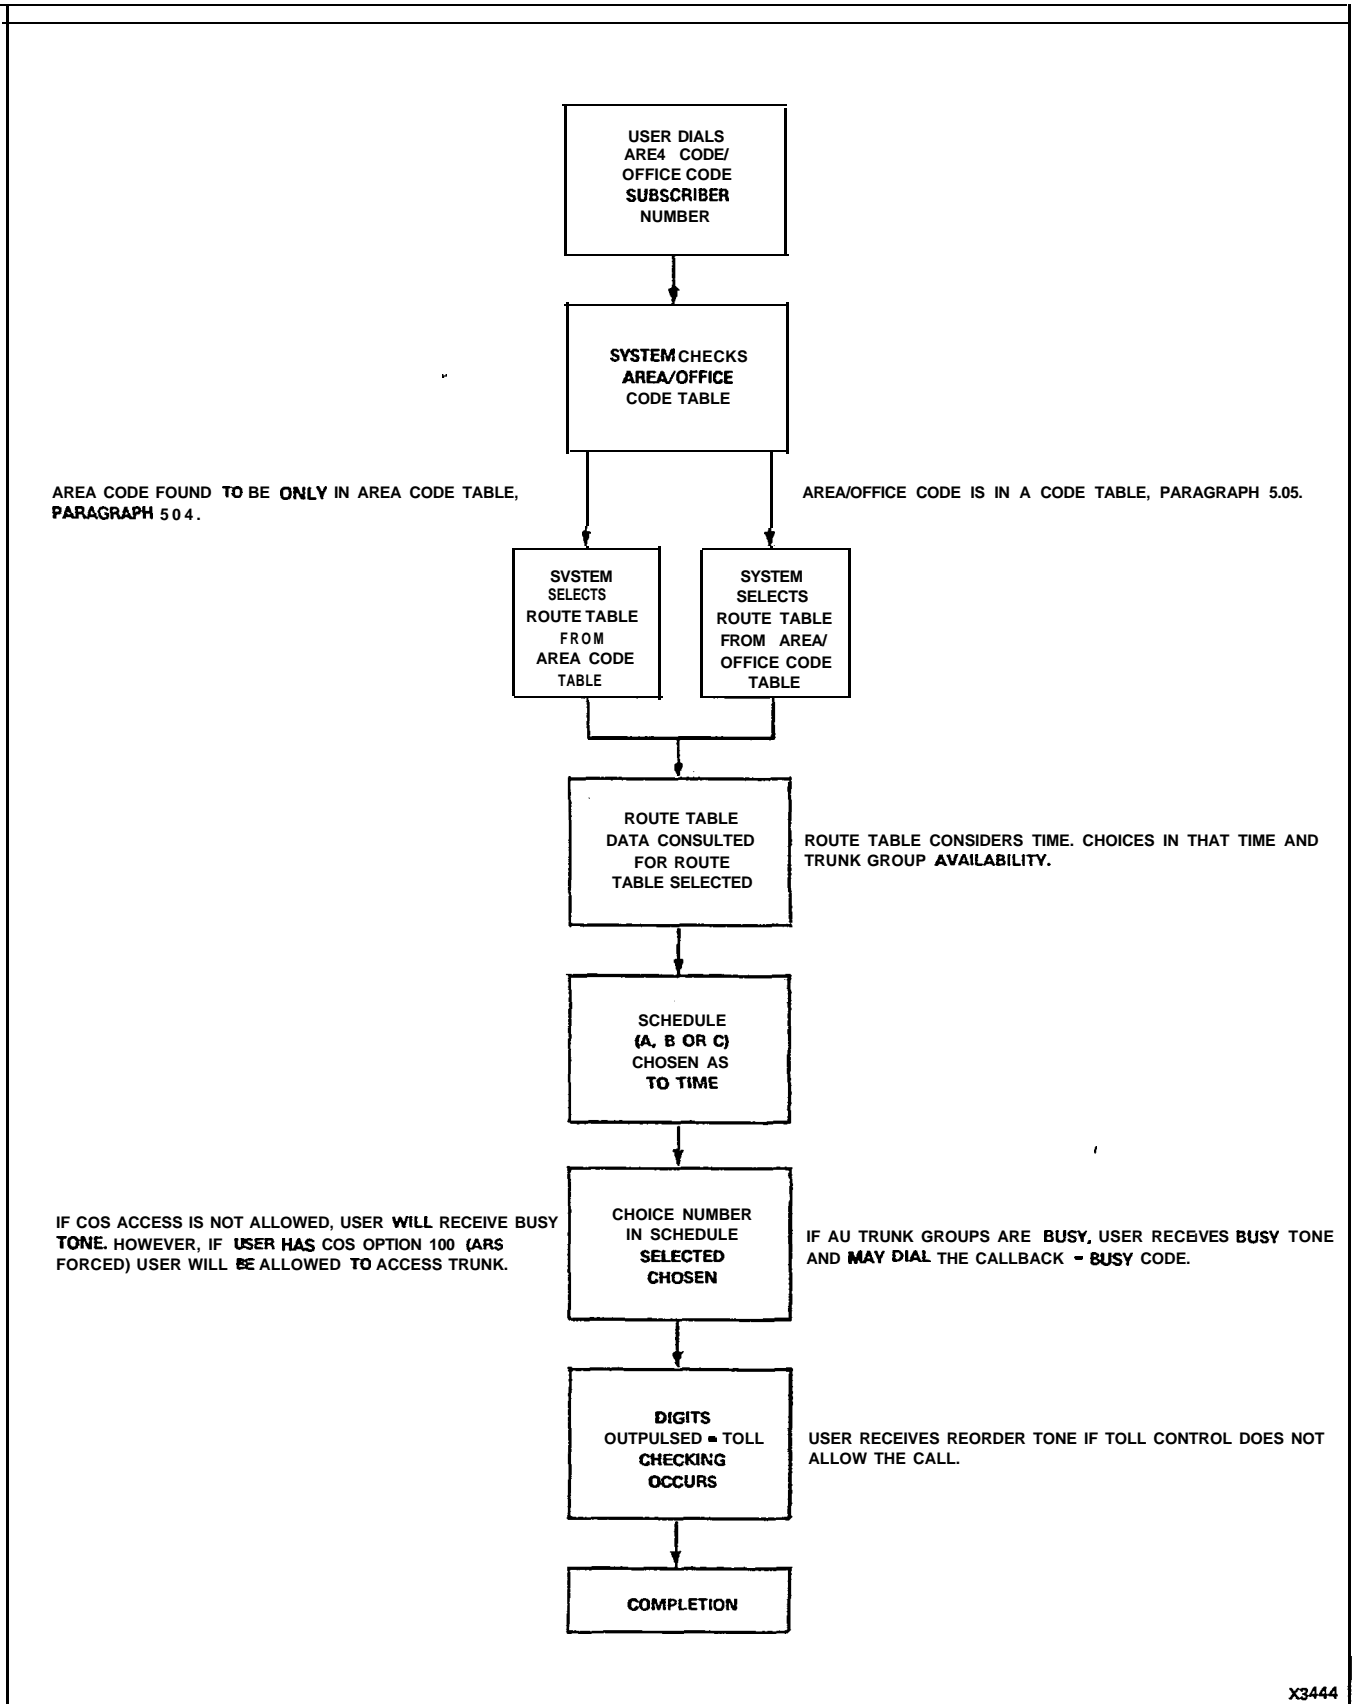

Figure 5-1 ARS Overview
5.09 There are three time Schedules (A, B and C) based upon a 24-hour day. Schedule A will originally appear as assigned to the entire 24-hour period. Schedule A may be programmed to any time period in the 24-hour day. Schedule B may not be programmed if desired. Any time period not programmed to Schedule A or B will default to Schedule C. Schedules A, B and C must start and stop on the hour; minutes may not be programmed. These Schedules (A, B and C) allow Basic Schedule Data to be subject to a maximum of three time periods, in which each time period may change the order of preference in the Basic Schedule Data. In other words, route choice preference may change in order of time Schedules A, B and C. Schedules A, B and C are entered as beginning hours and ending hours. For example, if the beginning hour is 08:00 and the ending hour is 17:00, the entry must be made as 0817. For a brief overview of paragraphs 5.04-5.09, consult Figure 5-1.